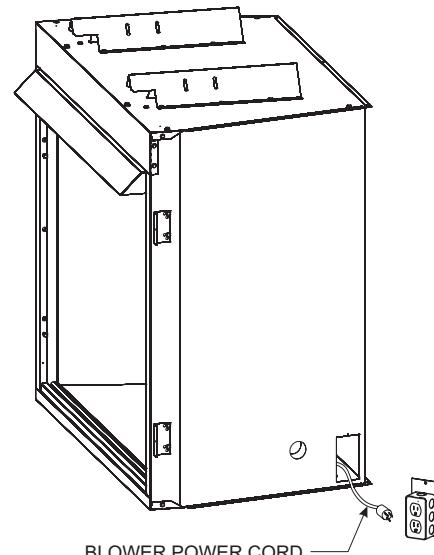

Figure 30
- To complete the installation, plug the power cord into the junction box receptacle at the right rear corner of the firebox outer wrap. See **Figure 30**.